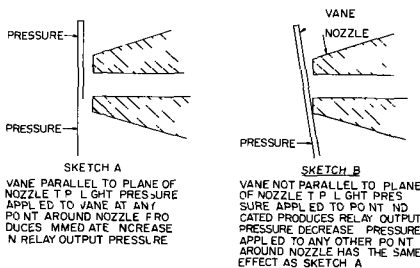

FIGURE 3 Vane and Nozzle Alignment
1. Periodically inspect nozzle tip (Figure 3) and vane (on associated instrument) for deposits of oil, dirt, etc. Clean with a suitable solvent.